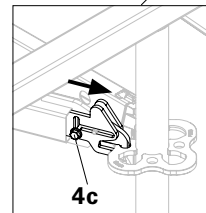

Fig. A1.04d
- Push the slider towards the rosette until the bolt (4c) falls into the longitudinal groove. (Fig. A1.04d)